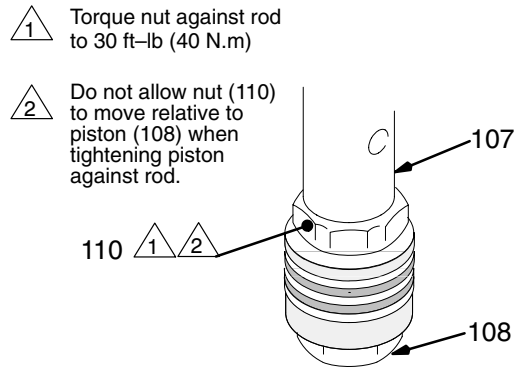

Fig. 20 _____
- Hand tighten the valve into the piston rod just until the nut (110) contacts the rod. See Fig. 20.
- Place the flats of the rod (107) in a smooth jaw vise.
- Carefully tighten the nut (110) against the piston rod to 30 ft-lb (40 N.m). See Fig. 20.